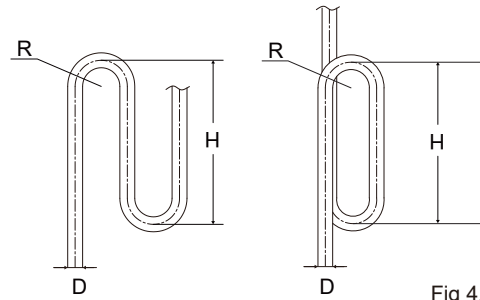

Fig 4.11
- When the outdoor unit is above the indoor unit, and the level difference exceeds 20 m, it is recommended that an oil return bend be set up at every 10 m interval on the gas pipe of the main piping. The recommended specifications of the oil return bend are as shown in figure 4.11.
- Requirement 3:** The largest level difference between indoor unit and outdoor unit should not exceed 50m (if the outdoor unit is above) or 40m (if the outdoor unit is below). Additionally: If the outdoor unit is above and the level difference is greater than 20m, it is recommended that an oil return bend with dimensions as specified in Figure 4.11 is set every 10m in the gas pipe of the main pipe.